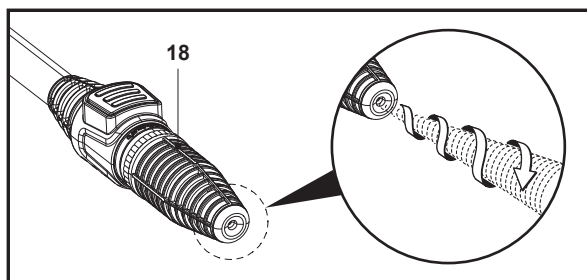

Fig. 9
The turbo nozzle (18) rotates as it sprays high-pressure jets of water for efficient washing (Fig. 9).